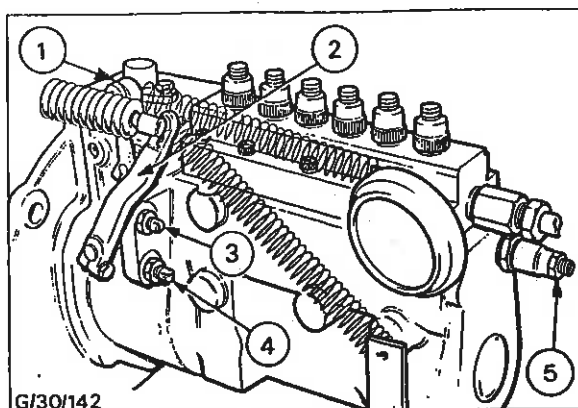

Fig. 39 - Speed Adjustments
1. Run the engine until normal operating temperature is reached, then adjust the idling speed stop screw (Fig. 39) to give the idling speed recommended by the equipment manufacturer. Blip the throttle to ensure a consistent return to this setting.
2. Where an idling damper is fitted, remove the cover at the front of the pump (Fig. 39), slacken the locknut and unscrew the damper screw approximately five turns.
1. With the engine running at normal operating temperature, with no load applied, operate the throttle control to hold the governor control lever against the maximum speed stop. Adjust the stop screw (see Fig. 39) to give the specified no-load speed.